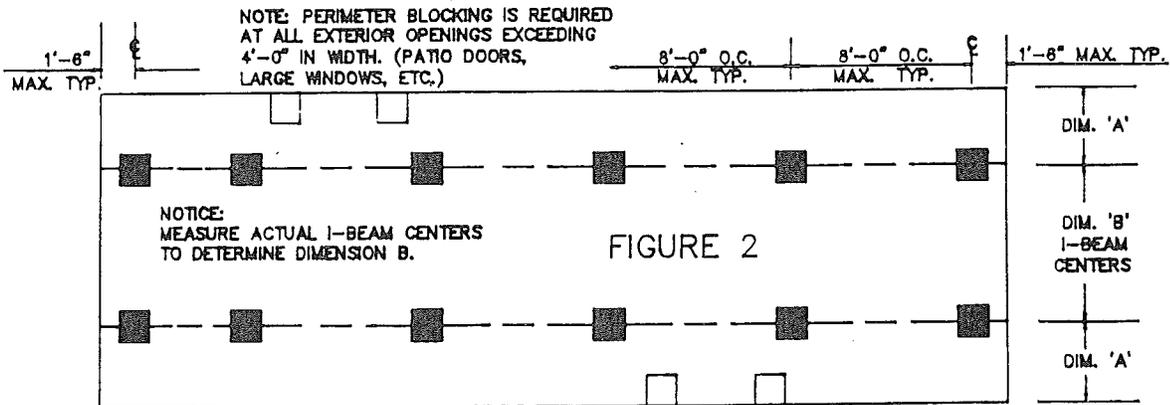

FIGURE 2
For maximum safety and secure living your home must be supported on a solid foundation. The proper size and locations for the foundation footings are shown in Figures 2 and 3, and in charts 1 through 4a.
1. Determine from Figures 2 and 3 and Charts 1 through 4a the proper spacing for piers to be located under the home. If a full concrete pad has not been installed at the site, concrete footings should have been installed as described earlier in this manual corresponding to the spacings called for in the tables. Remember, all exterior sidewall openings greater than 4 feet wide must be supported with piers. These supports are in addition to any perimeter blocking you may have elected to use.